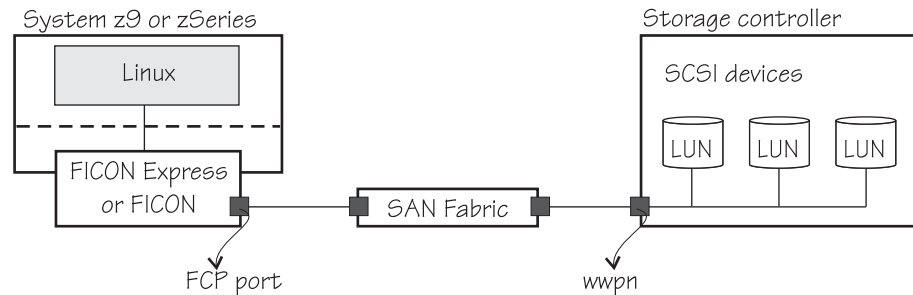

Figure 13.
- Using the correct WWPN. Every port has a WWPN, but the one you need is the storage controller WWPN, as illustrated in Figure 13. Talk to the person who configures the switches to find out what the correct WWPN is.
- The "Host Ports" (nomenclature used by the storage description) at the storage side must be configured to allow the access from the FCP adapter's port being used. The FCP port is illustrated in Figure 13.